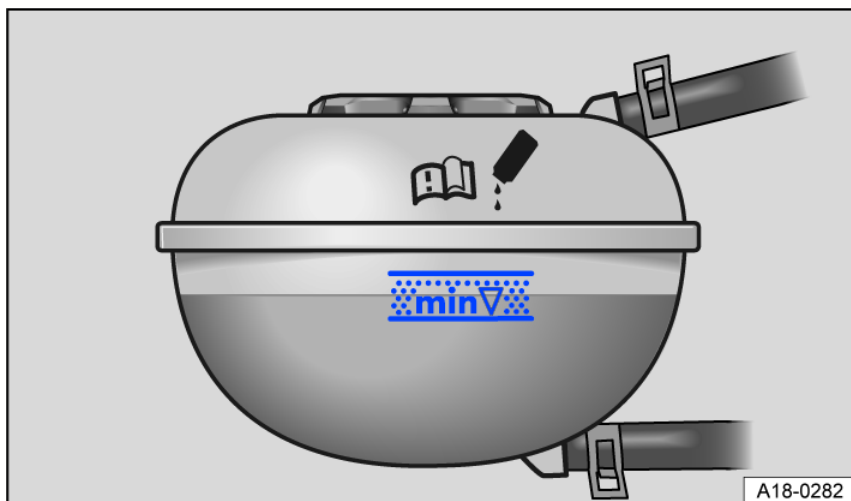

Fig. 200 In the engine compartment: markings on the engine coolant expansion tank.
- When the engine is cold, check the coolant level using the markings on the side of the engine coolant expansion tank fig. 200. The coolant level must be between the markings.
- After topping up the coolant, the coolant level must be between the markings on the coolant expansion tank *fig. 200*.